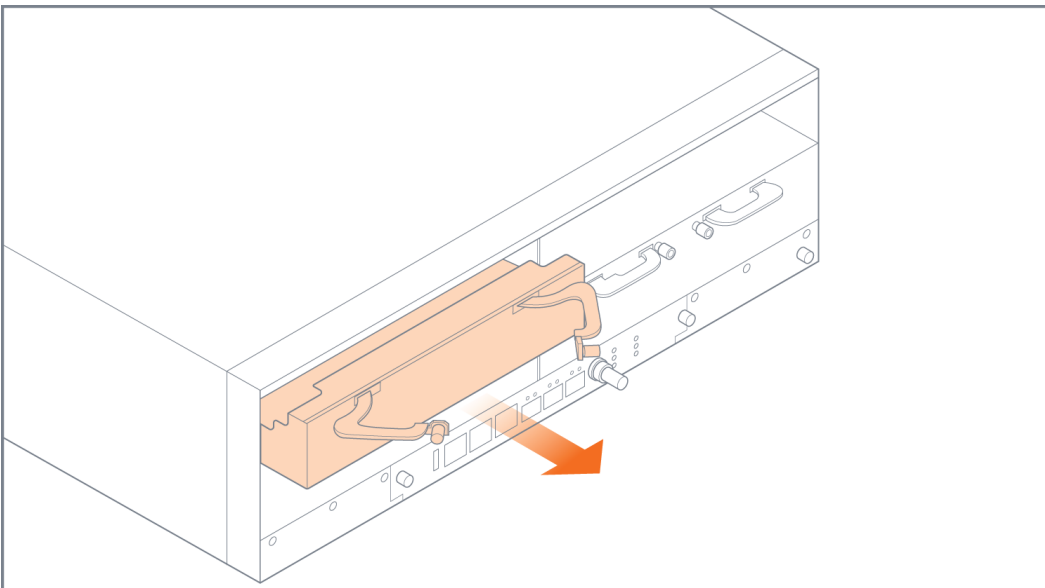

Figure 10: Filler Panel Removal
6. Remove a filler panel as shown in Figure 10: Filler Panel Removal.